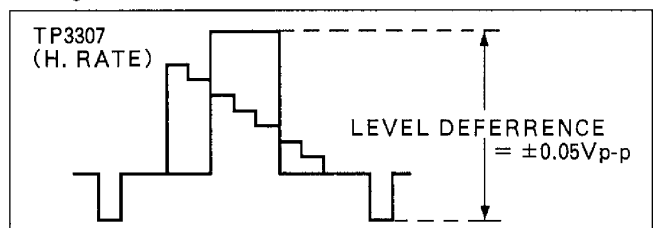

Figure E12
2. Adjust VR3202 so that the playback Y level becomes the same ($\pm 0.05V_{p-p}$) as the stop (EE) Y level as shown in Figure E12.